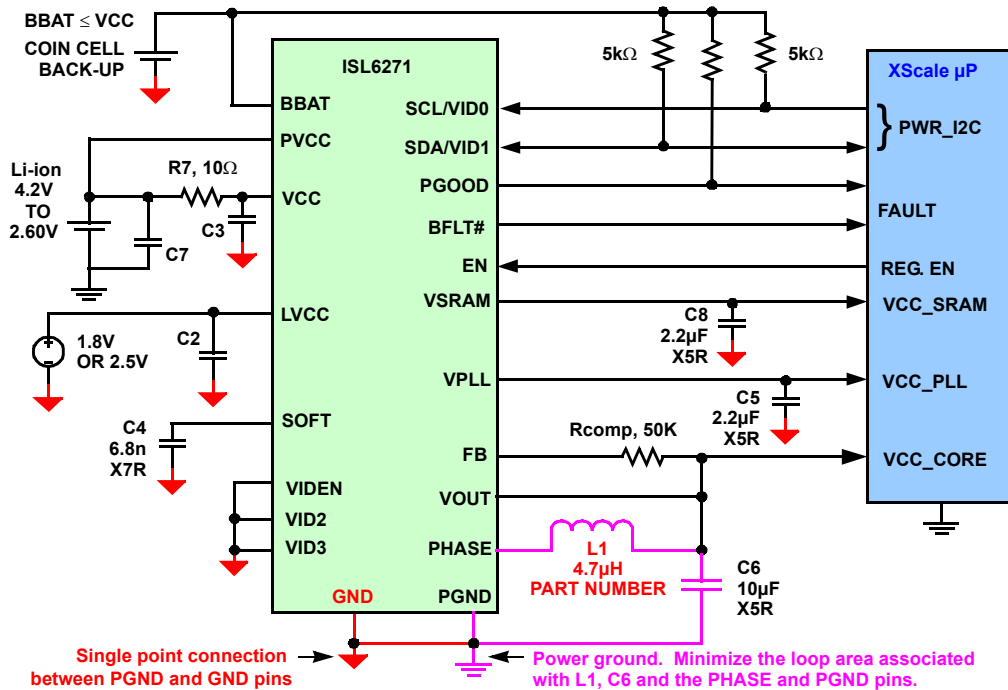

FIGURE 19. TYPICAL APPLICATION CIRCUIT
In a typical XScale configuration, the processor’s “Power Manager” will issue the voltage and slew rate commands to the ISL6271 over it’s PWR_ I²C bus after the ISL6271 acknowledges its address. The data byte is composed of two pieces of ‘set’ information: The prescribed voltage level embedded in bits D0-D3, and the prescribed transition slew rate (from the previous voltage to the target voltage) embedded in bits D4-D5. Each set of bits is transmitted MSB first. This protocol is depicted in Figure 19.
To minimize switching noise, it is important to keep the loop area associated with the phase node and output filter as short as possible. It is also important that the input voltage decoupling capacitor C7 be located as close to the PVCC pin as possible and that it has a low impedance return path to the PGND pin. In general a good approach to layout is to consider how switching current flows in a circuit, and to minimize the loop area associated with this current. In the case of the switching regulator, current flows from C7 through the internal upper P-MOSFET, to the load through the output filter and back to the PGND pin. *To maximize the effectiveness of any decoupling capacitor, minimize the parasitic inductance between the capacitor and the circuit it is decoupling.* Notice that Figure 19 illustrates the SIGNAL ground with RED highlighting. All components associated with these terminals should be tied together first. Be sure to make only one connection between this net and the PGND pin to avoid ground loops and noise injection points into sensitive analog circuitry.
1. Do not leave pins VID2(5) or pin VID3(6) floating when using the I²C bus. Tie these pins to GND (16).
2. Make sure that load current on VOUT returns to the pin (7) (PGND). Pin 16 (GND) functions as a quiet return for the LVCC loads. It is internally tied to the device substrate (pin 21). Tie Pin 16 to Pin 7 at a single point as in Figure 19.